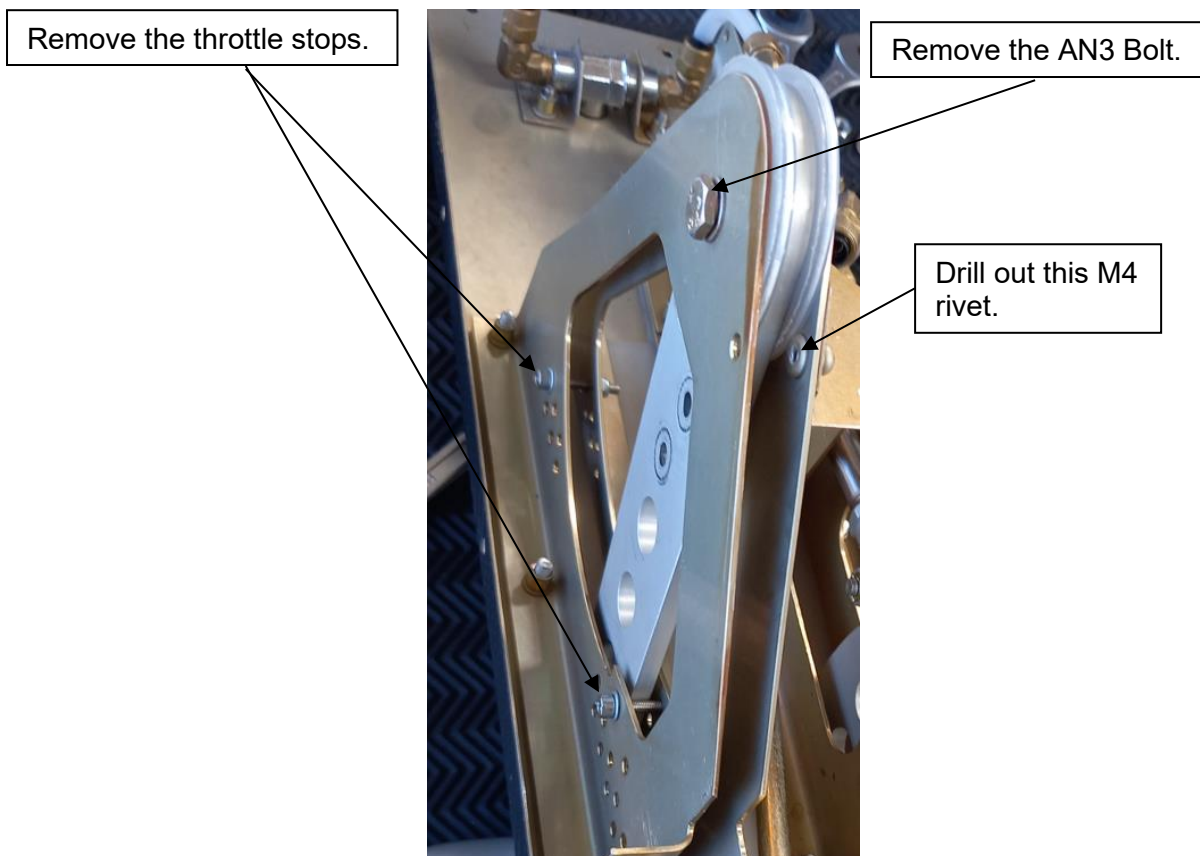

Figure 5
Step 5: Once the three screws have been removed from the outer bracket, remove the AN3 bolt shown in Figure 5, as well as the throttle stops. After the bolts have been uninstalled, the bracket can be removed, and the rivet must be drilled out.